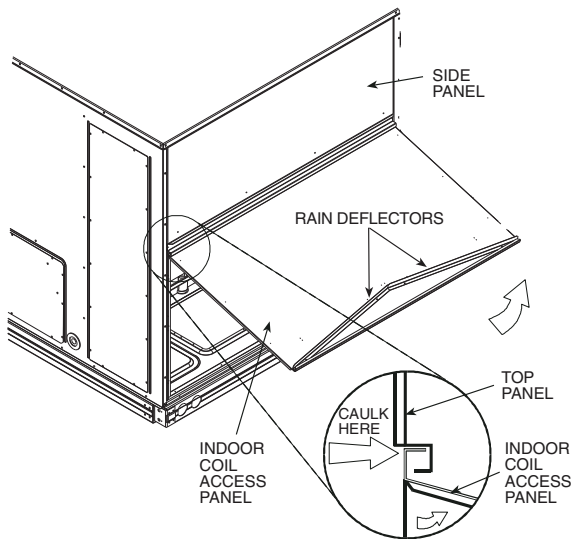

Fig. 20 — Indoor Coil Access Panel Relocation (Size 180 Shown)
1. The indoor coil access panel will be used as the top of the hood. If the panel is still attached to the unit, remove the screws along the sides and bottom of the panels. See Fig. 20.